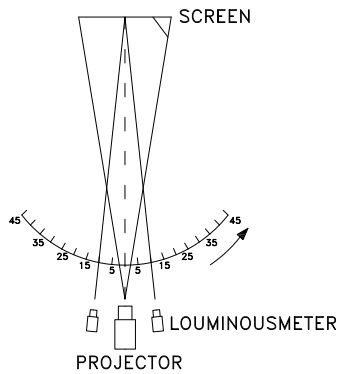

Fig.8 - Gain measurement
- Gain Measurement: see the figure 8